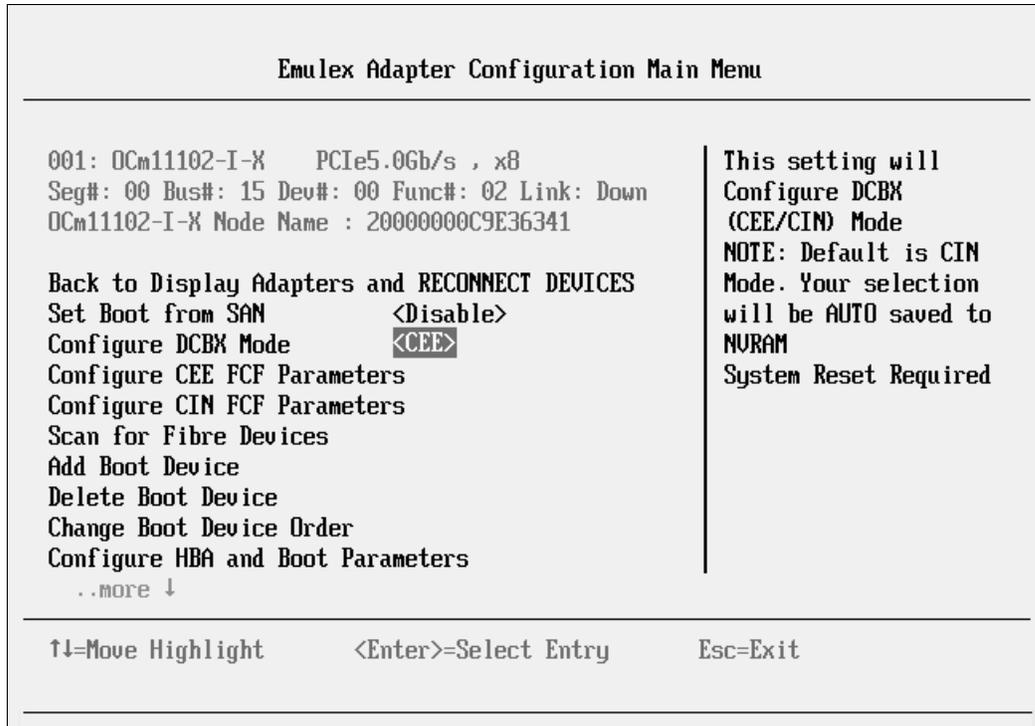

Figure 10-63 Emulex Adapter Configuration Main Menu panel
6. In the Emulex Adapter Configuration Main Menu panel (Figure 10-63), for Configure DCBX Mode, select **CEE**. Press Esc to exit.